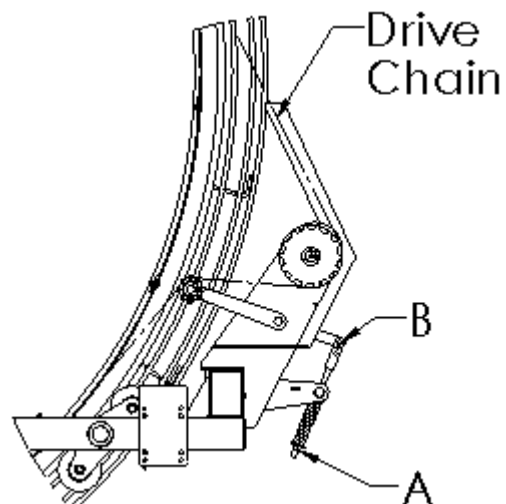

Figure 7-44: Wheel Drive Chain Tension Adjustment
- 2. Tighten nut (A), shown in Figure 7-44, until at desired chain tension.